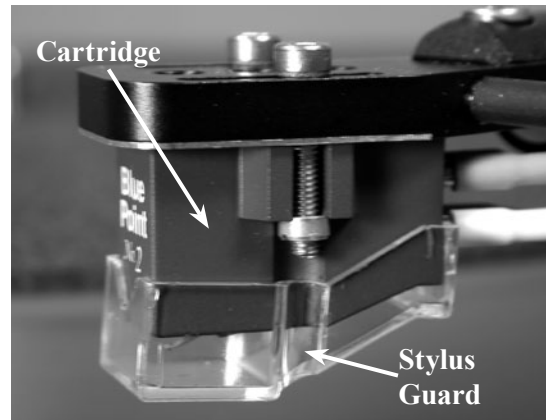

Figure 21
- Carefully slide off the Stylus Guard from the cartridge by pulling the cover straight down. Refer to figures 21 and 22.